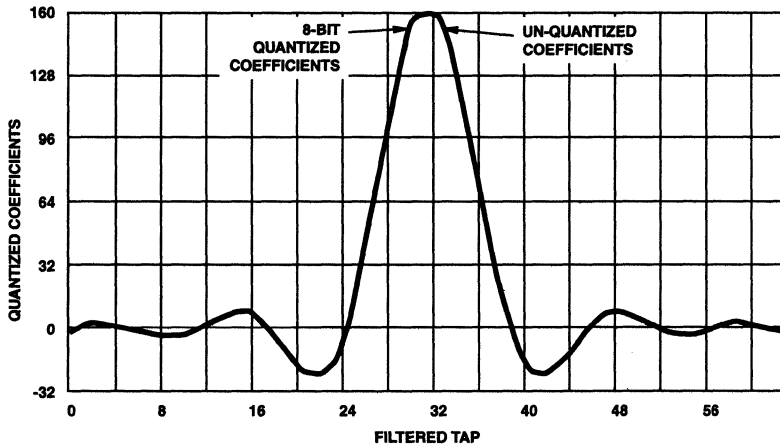
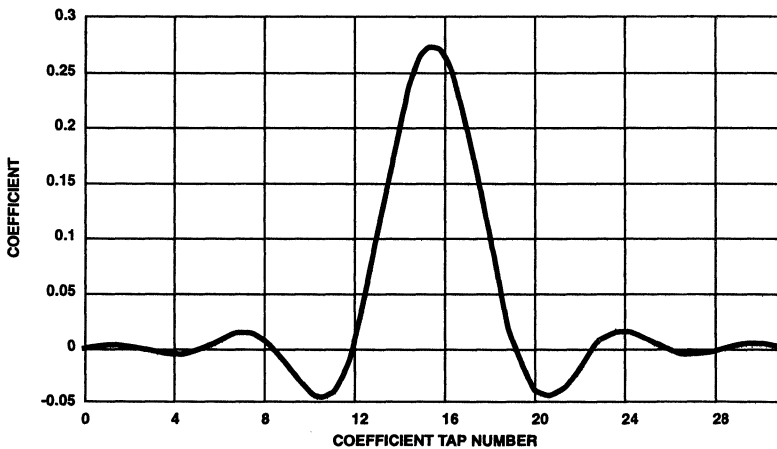

FIGURE 7. COEFFICIENTS FOR THE SQUARE ROOT OF RAISED COSINE $\alpha = 0.4$ FILTER
FIGURE 8. COEFFICIENTS FOR THE b128fir.cfg CONFIGURATION FILE FILTER: rrc4a4x.lmp
The final field of the file name is the filter type. The options are RRC for Square Root of Raised Cosine $\alpha = 0.4$ filtering (for bandlimited applications), I&D for Integrate and Dump filtering (for unfiltered data applications), and FIR filtering (for creating application specific onboard serial FIR filters). Figure 7 details the coefficients of the RRC Cosine $\alpha = 0.4$ filter. The FIR selection implies that the DCL RCC and I&D filters are bypassed. In this case the file represents the coefficients for the FIR filter. Figure 8 details the coefficients for the FIR filter in example configuration file. Table 1 lists the configuration files provided as examples with the EVAL kit and details the modulation format, data rate and filtering associated with each file.
When using the "fir" filter configuration, the FIR filter coefficient file that is used can be changed. Figure 8 illustrates that the Data Path/Modulation Menu Item (14) must be selected and changed from "0" (Bypassed) to "1" (enabled). After selecting "1", the user is prompted for the file name of the filter. The software will automatically append a ".rpt" suffix to the file name, indicating a SERINADE generated file, so do not enter a suffix with your file name. A number of example FIR filter files have been included on the distribution disk in the kit under the *FILTERS* directory, for the evaluation of a variety of Square Root of Raised Cosine filters. The files with the ".imp" suffix are files ready to import into *SERINADE*. The *SERINADE* FIR filter design software is included on the evaluation kit distribution disk, allowing the user to create files for specific applications. The files with the ".rpt" and ".ser" suffixes are generated by *SERINADE*. The HSP50110/210EVAL software uses the files with the ".rpt" suffix. Table 2 defines the available FIR filter coefficient files.